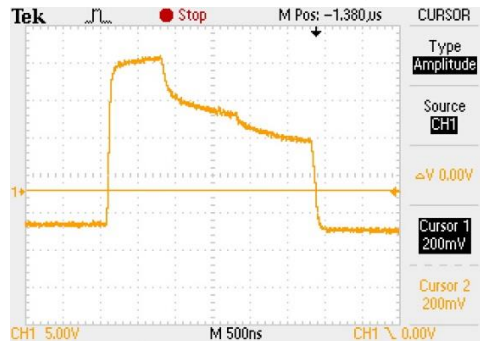

Figure 17: DSAT Operation Turn-Off Example, Vgs
1. V_{gs} should look similar to Figure 17.